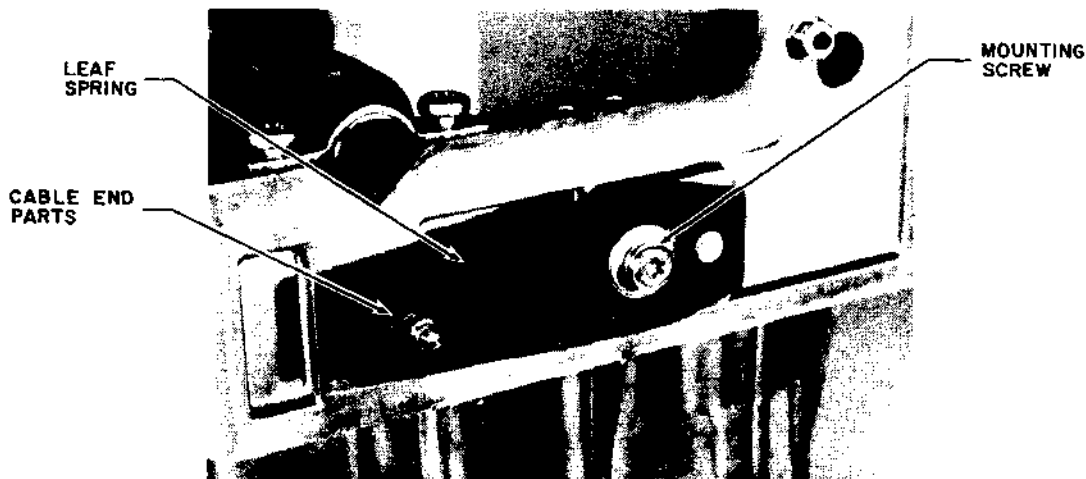

Figure 3-15. Carriage Drive Cable Tension Spring
- (1) Turn the power off and unplug the power cord from the ac outlet.
- (2) Remove the top cover and accessories (see 3.1.2).
- (3) Remove the printer from the bottom cover (see 3.3.5).
- (4) Position the carriage slightly to the right of center to gain access along the right side of the carriage servo motor to the mounting screw for the carriage drive pulley on the lower portion of the carriage. Use a TORX T15 screwdriver, reach up beside the carriage motor, and remove the carriage pulley mounting screw. Make sure the pulley is free from the carriage subassembly, and move the carriage to the side to clear the pulley. Retrieve the spacer from the top of the pulley; note that the spacer has a shoulder which extends down into the center of the pulley for later reassembly.
- (5) Referring to Figure 3-15, use a TORX T15 screwdriver to loosen the mounting screw and release the tension on the drive cable tension leaf spring, located on the left side frame. This will release the tension of the carriage drive cables.
- (6) Retrieve the carriage drive pulley, and unthread the two drive cables from around the servo motor's capstan and fixed side pulleys. Note that the ball end of the left-hand cable is trapped between the servo motor's capstan and the printer frame. Rotate the capstan so that the notch is in the six o'clock position and release the ball and cable from the bottom of the printer.